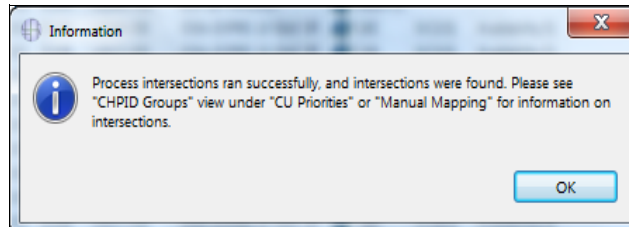

Figure 4-27 Selecting at least one adapter type
1. Click the Adapter Type column in the target row. The tool displays an arrow in the Channel Type column of the target row (see Figure 4-27).